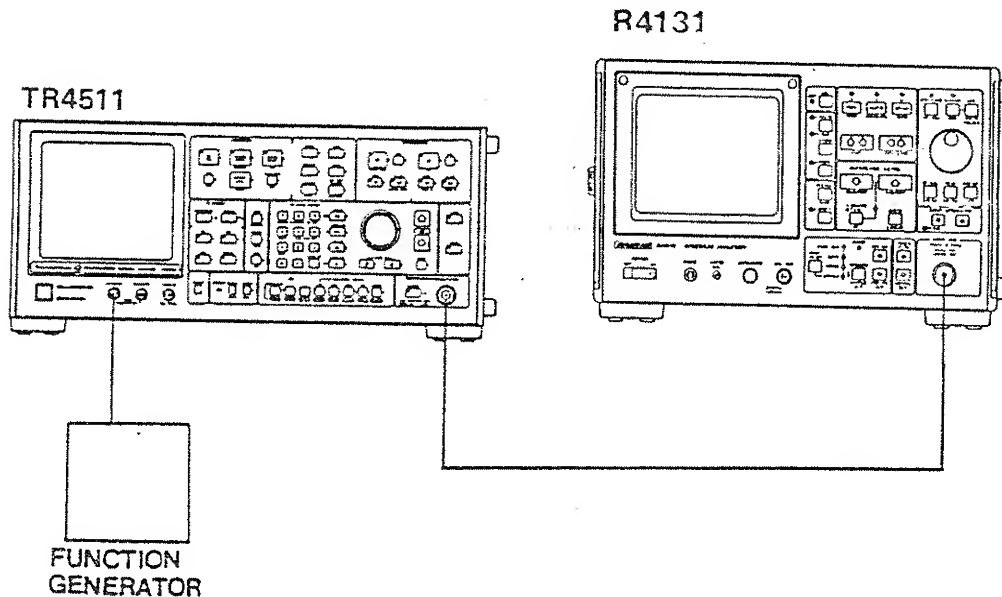
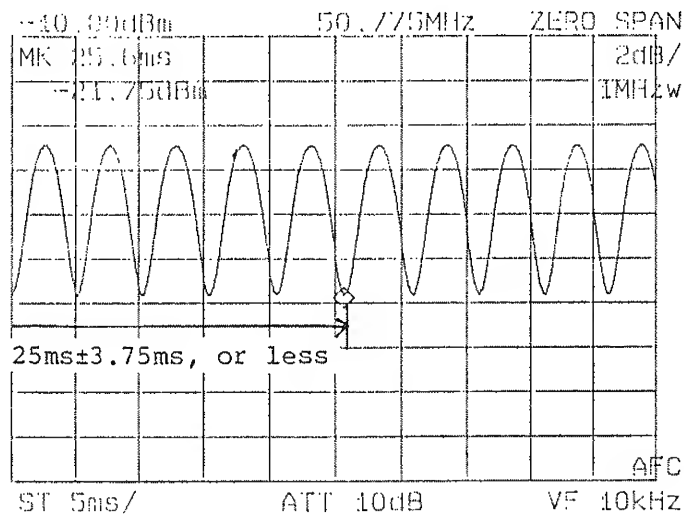

Figure 11-23 Sweep Time Accuracy Test Setup
Figure 11-24 Sweep Time Accuracy Test
- ② Set the output frequency of the synthesized signal source to 50 MHz, -10 dBm, EXT AM mode.
- ③ Set the function generator to generate sine waves at 200 Hz $\pm 0.5\%$.
- ④ Connect the instruments as shown in Figure 11-23. Turn the R4131 TUNING dial to position the signal in the center of the display screen. Further, set the frequency span to zero span and adjust the TUNING dial to obtain the maximum signal level.
- ⑤ Adjust the function generator output level to obtain demodulated waves in the order of 3 DIV_{p-p}.
- ⑥ Adjust the reference level to position the signal at an easily viewed position on the display screen.
- ⑦ Set the TRIGGER MODE switch to VIDEO.
- ⑧ Set the sweep time/division to 5 ms and store the resultant waveform. Check that five periods of the demodulated waves have a duration of 25 ± 3.75 ms, or less. (See Figure 11-24)
- ⑨ Similarly, test other sweep time/division with the settings specified in Table 8-11.